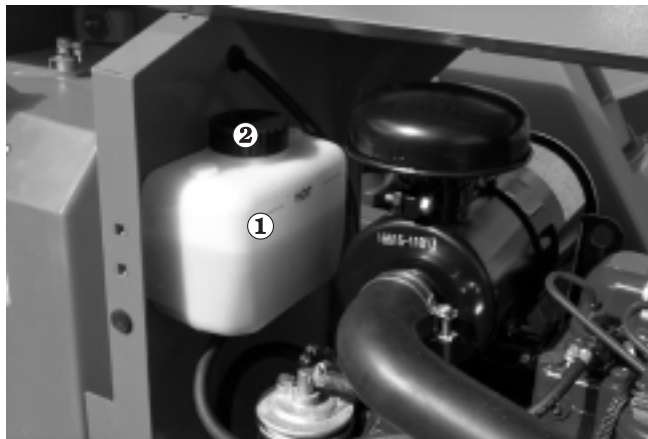

Figure 7.7 - Engine Coolant Level
The Kubota engine is liquid cooled. At operating temperatures the coolant should be at the HOT level ① (see Figure 7.7). When cold there should be approximately 1 inch (2.5 cm) of coolant in the bottom of the reservoir.
Turn the engine OFF at the ground control box KEY SWITCH. Remove the cap ② (see Figure 7.7) from the coolant reservoir. Add coolant and replace cap.